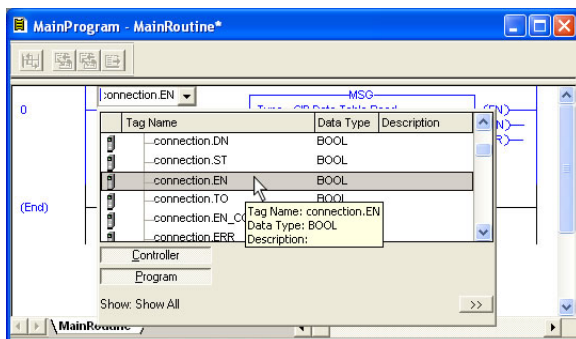

Figure 110: Configure XIO Element
- a) Double-click on the XIO element located to the left of the MSG block. In the drop-down box, double-click on the "connection.EN" field. Refer to Figure 110. This configuration causes the MSG instruction to automatically retrigger itself when it completes. While this is acceptable for the purposes of this example, it can produce high network utilization. In actual practice, it may be desirable to incorporate additional logic elements to allow triggering the MSG instruction at a specific rate or under specific conditions.